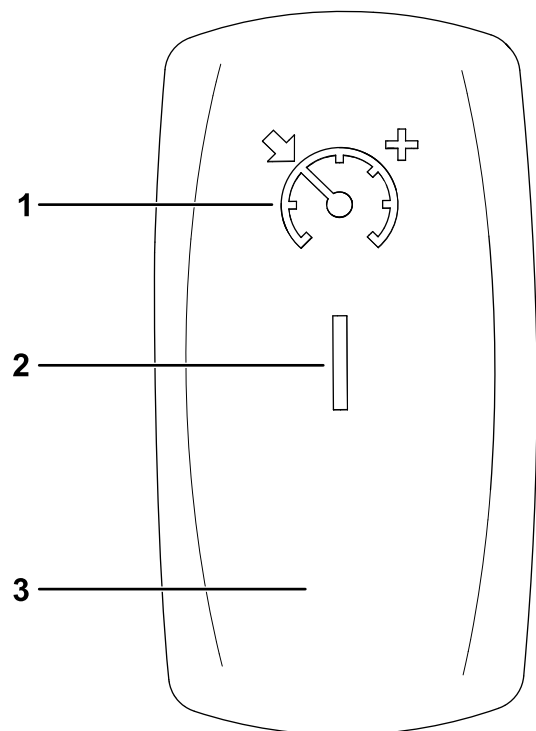

Figure 84
1. Move the cruise control switch to the ON position (Figure 84).
2. When you reach the desired drive speed, press the cruise control switch up to engage/set the cruise control (Figure 84).
To increase the cruise control speed, press the switch up until you reach the desired speed (Figure 84).
To disengage cruise control, press the switch to the down, OFF position (Figure 84).